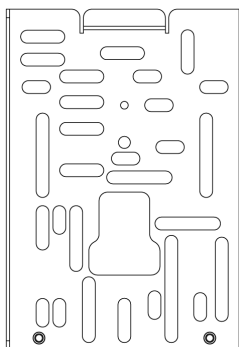

Figure 4. Universal Wall Bracket
2. Adjust the universal wall bracket against the old thermostat position, such that any two slots on the wall bracket match the existing two holes on the wall. The universal wall bracket is shown in Figure 4.